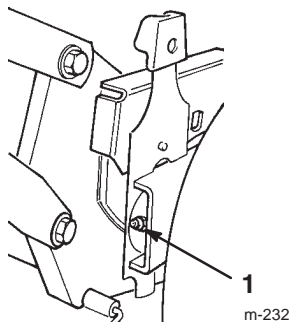

Figure 27
2. Wipe the grease fittings with a clean rag (Fig. 27).
3. Install a grease gun onto the fitting and gently apply 2 or 3 pumps of #2 multi-purpose lithium base grease (Fig. 27).